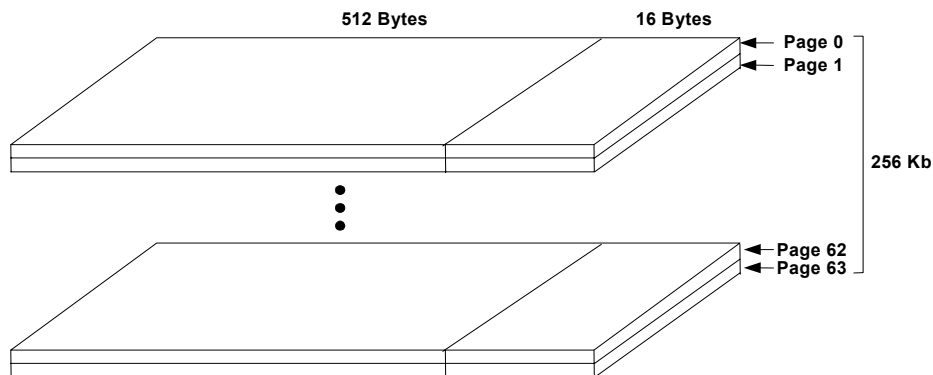

Figure 13: Block Structure
- **Block (Erase Unit)** – Each block contains 64 pages (total of 256Kb), as shown in Figure 13. A block is the minimal unit that can be erased, and is sometimes referred to as an erase block.